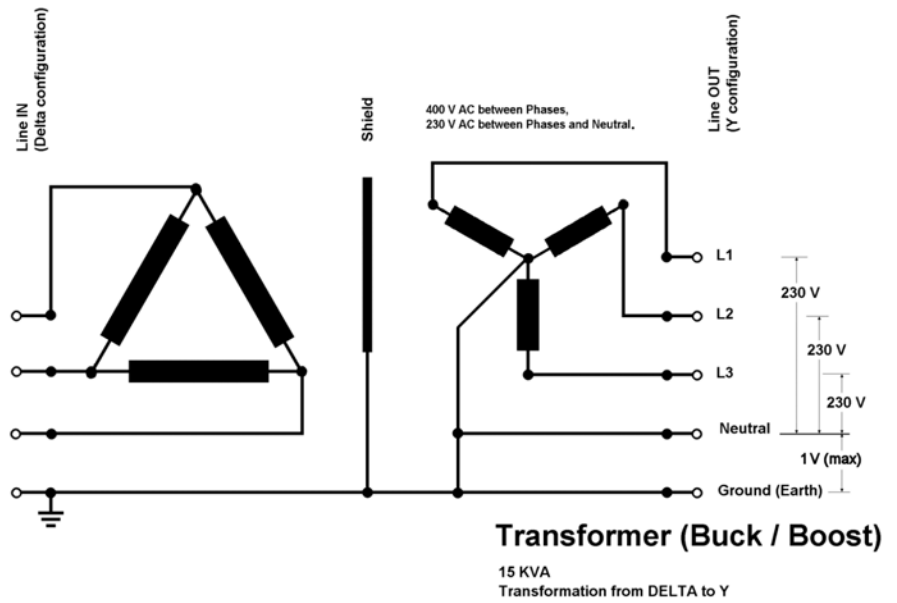

Figure 3-1. Δ-to-Y Conversion
- Three phases, 5-wire system in Y configuration (neutral wire connected to earth). For further information, refer to Figure 3-1.
In addition, the voltage between ground and neutral should not exceed 1 V. See Figure 3-1. Notice the definitions for the most common voltage disturbances below: